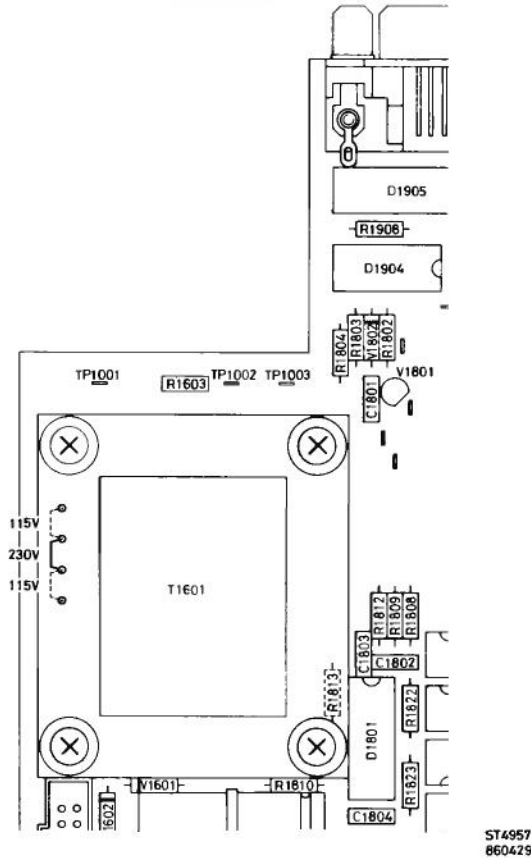

Figure 7.1 Adaption to the local mains
- Change the drawing as shown in figure 7.1 (230 V, 1 connection; 115 V, 2 connections).